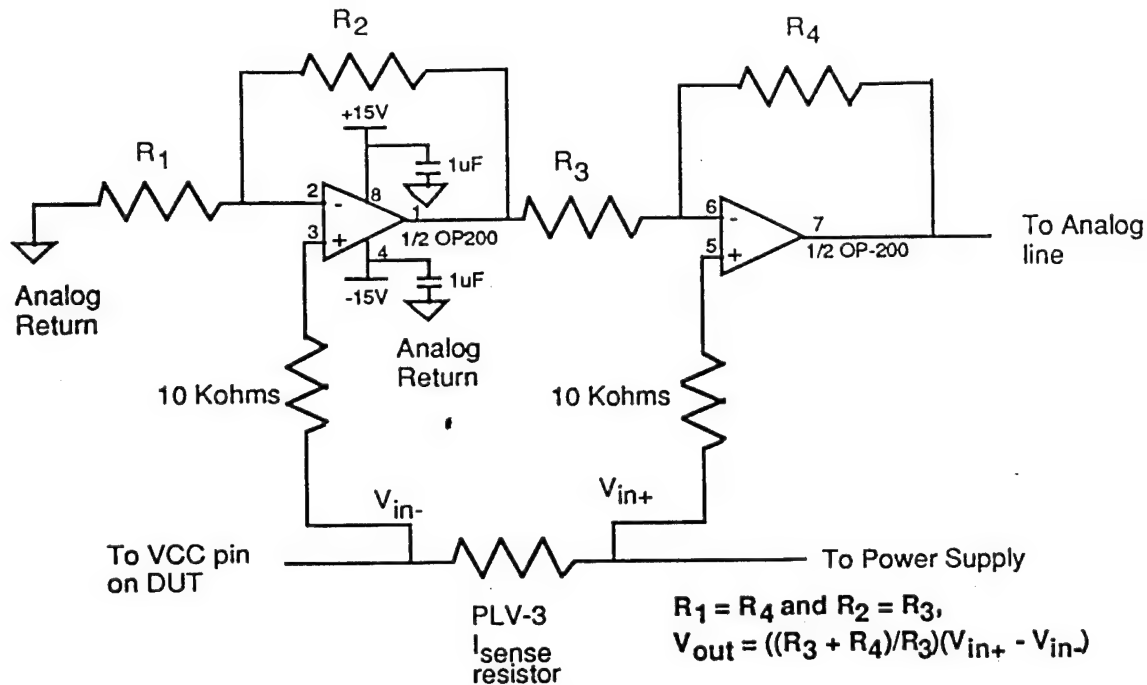

Figure 6 - Current Sensing Circuitry
3.2.7.3 Current Sensing Circuitry. The recommended current sensing circuitry is shown in Figure 6.